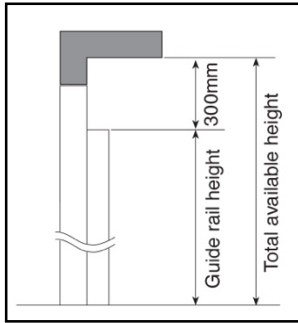

Fig 7
b. Where only limited headroom is available guide rail length equals total available height less 205mm / 300mm as shown in **(Fig7)**.